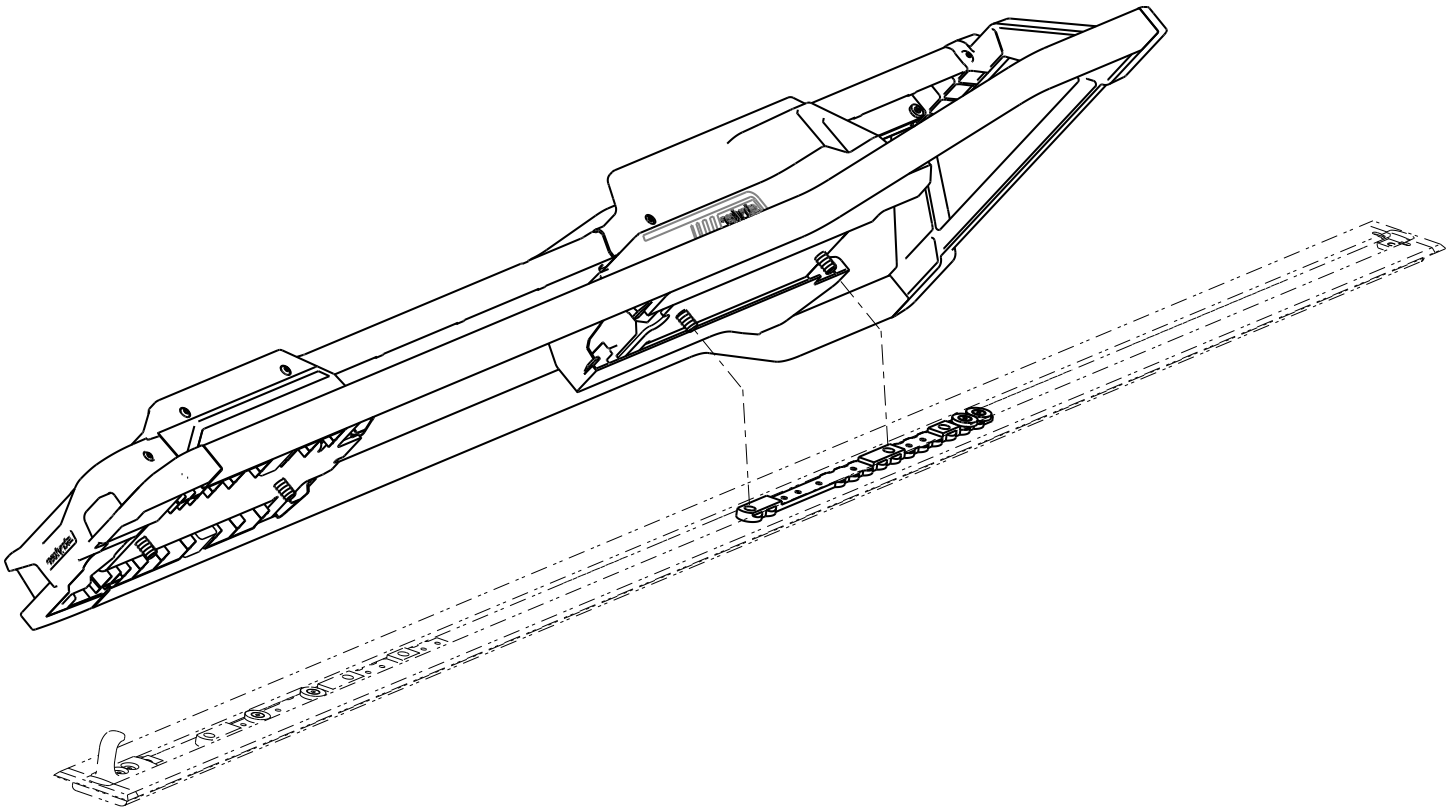

Figure 5 – Performance-LOAD alignment
1. Carefully place **Performance-LOAD** on top of the floor plate assembly. Align the two bolts at the head end with the two holes in the cleat (Figure 5).